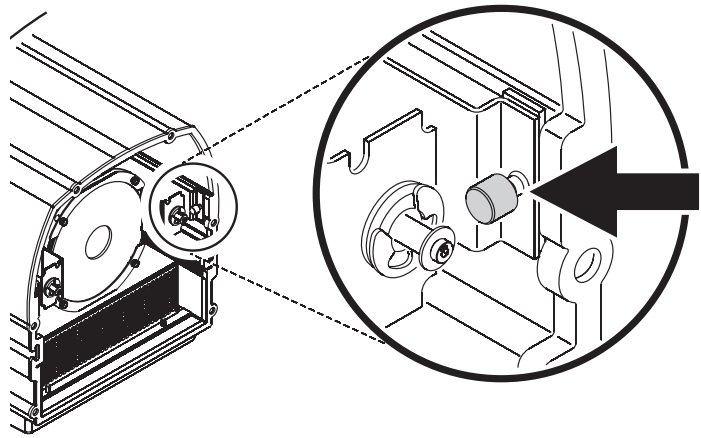

Figure 19: Slider lock
3. See Figure 19. Pull out the slider locks in the sliders on each side at the front of the housing.